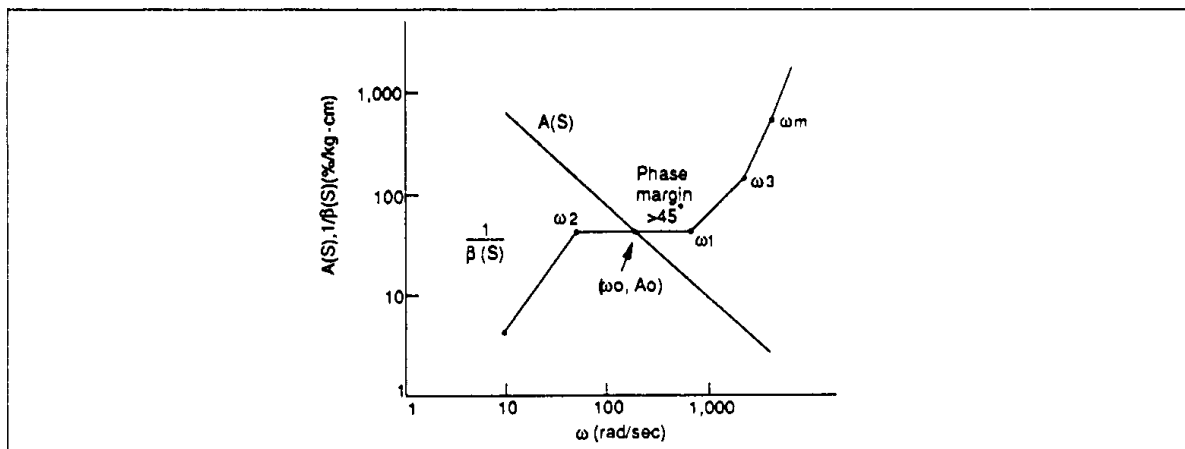

Figure 3 Stable Relationship of $A(S)$ and $\beta(S)$
To control speed within a stable fashion, $A(S)$ and $\beta(S)$ must have the relationship shown in Figure 3. That is, the angular frequency of the crosspoint of $A(S)$ and $\beta(S)$, ω_o , should be between the angular frequency of the integrator, ω_1 and ω_2 .
From Figure 3 and equation (12):